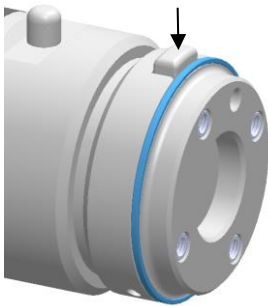

Figure 1.5
- 1) Push the button all the way down (*figure 1.5*)